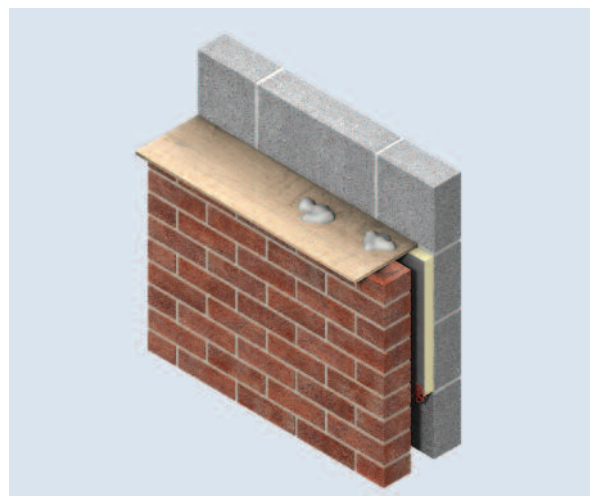

Figure 7 – Use of a Cavity Board to Protect the Cavity and Insulation Board Top Edge
- Use of a cavity batten or cavity board is recommended to protect board edges and maintain a clear cavity (see Figures 7 & 8 or refer to BBA Certificate 94/2992 or NSAI Agrément Certificate 03/0196).